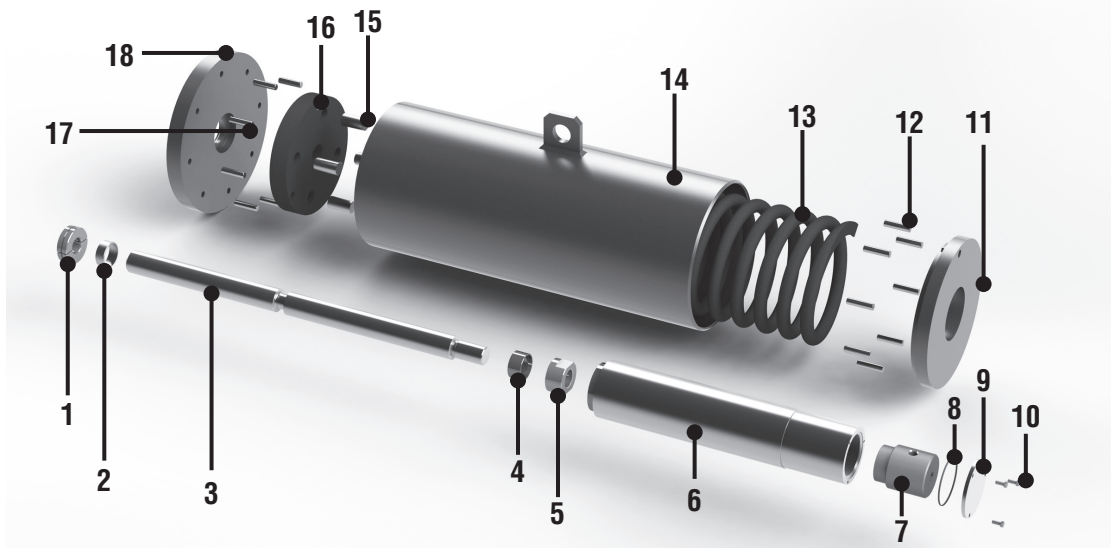

Figure 23: Spring Can Exploded View
There are two different situations, requiring different sequences of instructions: in the first situation, the actuator is already disassembled from the valve. The second situation regards the conversion with the actuator assembled on the valve. The reference drawings are Figures 23 to 27.
- 4.1.3 The reference drawings for the instructions reported in the following paragraphs are the exploded views of single acting and double acting actuators, included as Figures 23 to 27.
The removal of the spring container from the actuator has to be performed through the following steps. The reference drawing is Figure 23.
The main spare parts and the interval time for standard ON/OFF applications are listed in the table below. Part numbers are referred to in Figures 23 to 27.